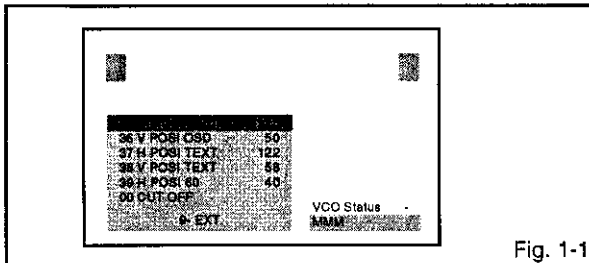

Fig. 1-1
1. In the condition of NO indication on the screen. Press the VOL. DOWN button on the set and the Channel button (9) on the remote control for more than 1 second to appear the adjustment mode on the screen as shown in Fig. 1-1.
4. Activate the adjustment mode display of Fig. 1-1 and press the channel button (01) on the remote control to select "RF AGC".
3. Activate the adjustment mode display of Fig. 1-1 and press the channel button (00) on the remote control to select "CUT OFF".